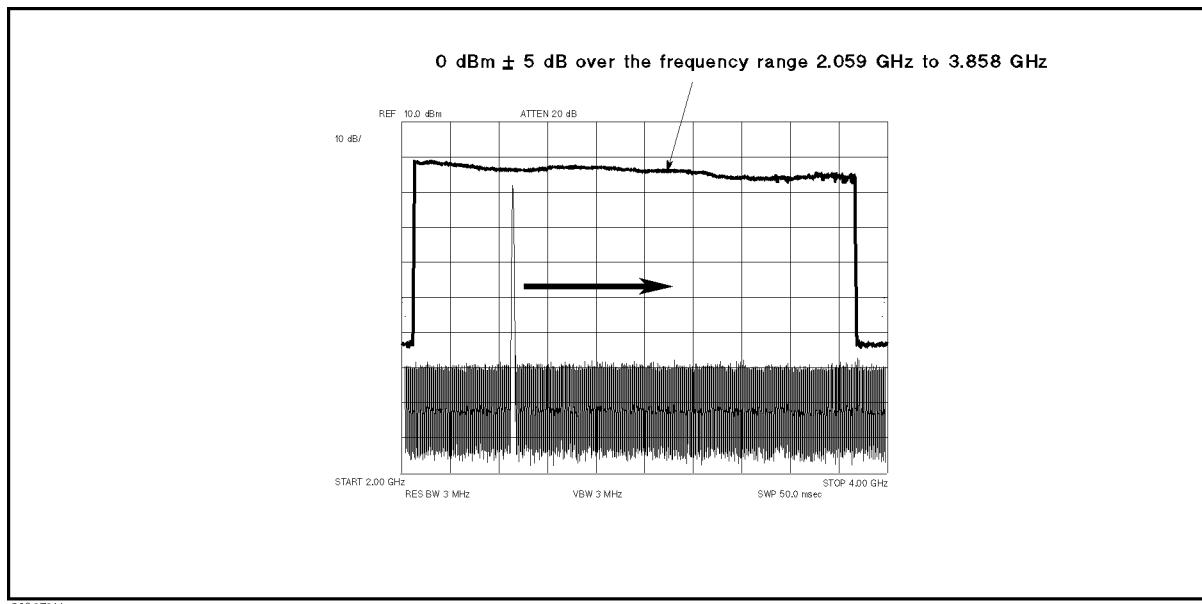

Figure 7-14. Typical 1st LO OSC Signal (Single Mode) at A4A1J3
- e. Check that the frequency is 520 MHz, the level is $-15 \text{ dBm} \pm 0.2 \text{ dB}$, and the harmonic levels at 480 MHz and 560 MHz are lower than 0 dBc (lower than the 520 MHz signal level). The trace displayed on the spectrum analyzer should be as shown in Figure 7-14.
e. Wait for the completion of the sweep, and check that the signal level is -5 dBm to $+5$ dBm over the frequency range of 2.059 GHz to 3.858 GHz. The displayed trace should be as shown in Figure 7-14.